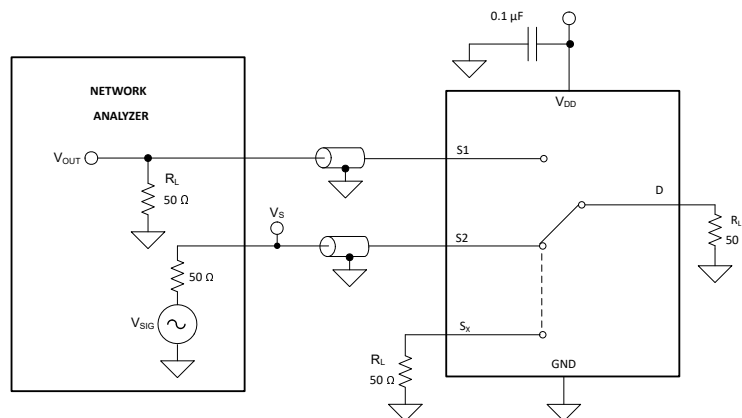

图 8-6. Channel-to-Channel Crosstalk Measurement Setup
Crosstalk is defined as the ratio of the signal at the drain pin (D) of a different channel, when a signal is applied at the source pin (Sx) of an on-channel. 图 8-6 shows the setup used to measure, and the equation used to compute crosstalk.